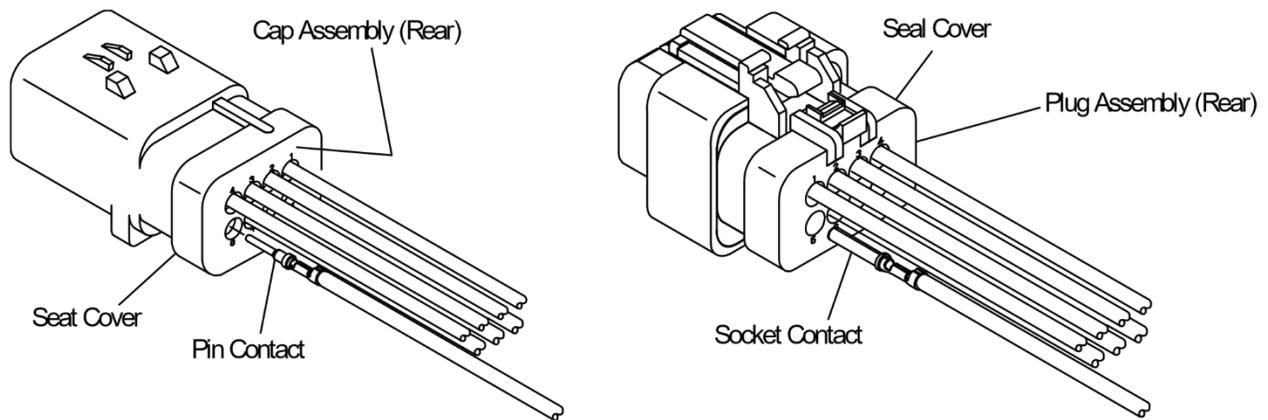

Figure 6
2. Align the appropriate contact with the desired circuit cavity at rear of the housing assembly. Push the contact straight into the cavity, forcing it through the wire seal. See Figure 6. Continue to push the contact straight into the cavity with the wire until the contact retention finger returns to its normal position behind the retention shoulder on the contact as indicated by an audible and tactile “click”. Refer also to Figure 6.